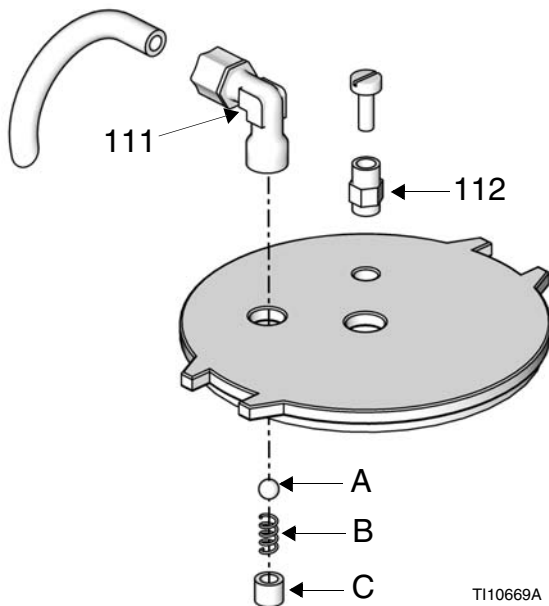

FIG. 3
3. After each use, check to see that the check valve (113) in the bottom of the pressure inlet elbow (111) is free of paint and debris. See FIG. 3. If necessary, unscrew check valve brass retainer ring (C), remove spring (B) and ball (A) and soak in compatible solvent. Reassemble with small end of spring facing ball when inserted into elbow.